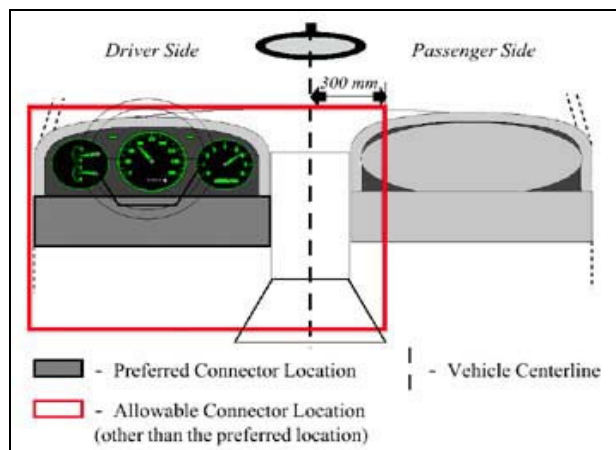

Figure 5-2
- 6) Locate the vehicle's DLC (data link connector) and plug in the diagnostic interface. (Figure 5-2 and 5-3)